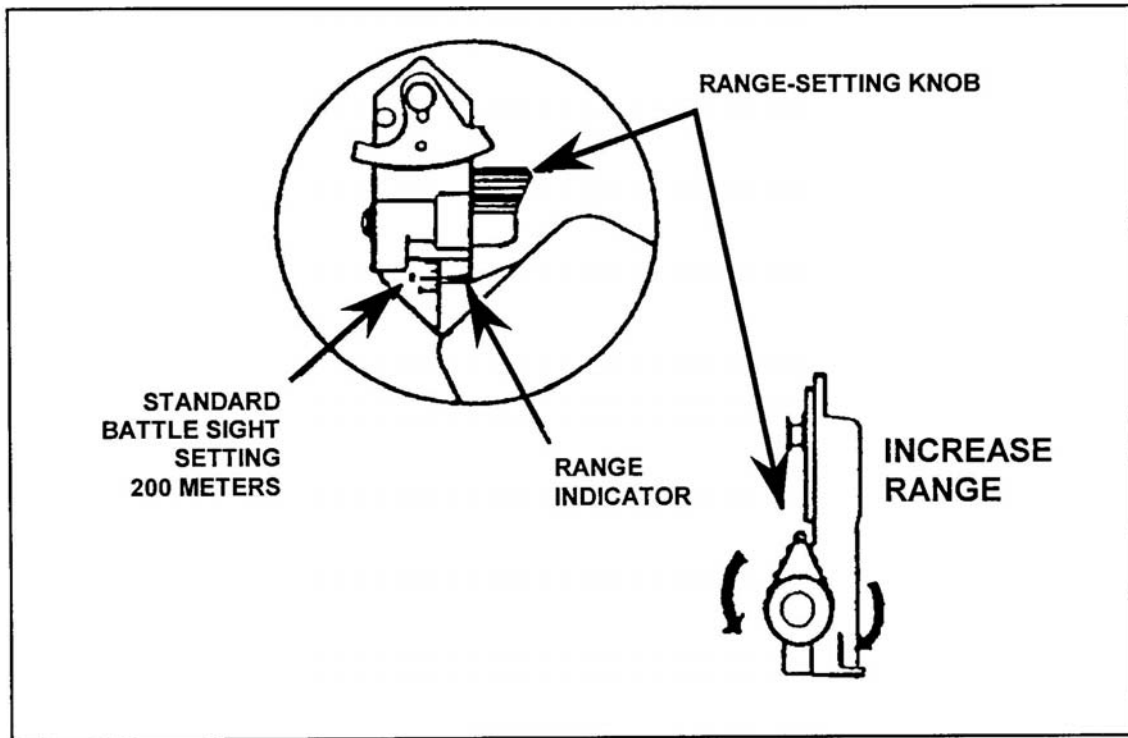

Figure 6. Adjusting the rear sight.
- (1) When closing the sight cover, set the sight on a range of 200 meters. Therefore, when the rear sight is uncovered, the battlesight setting is 200 meters. If the range to the target is more than 200 meters but less than 250 meters, no sight adjustment is required (Figure 6).
- (2) To adjust the rear sight range setting to more than 200 meters, turn the range knob clockwise (toward the muzzle). To decrease the range, turn the range knob counterclockwise (toward the gunner). There is a click at each 50-meter increment; this sound aids you during limited visibility (Figure 6).